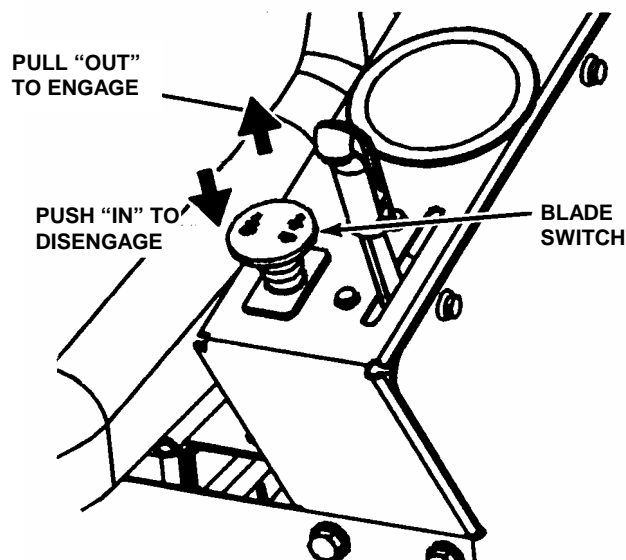

FIGURE 2.2
**2.1.4.** Check Blade switch to insure it works freely. Switch is pulled "OUT" into the "ON" position for blade engagement or pushed back "IN" into the "OFF" position for blade disengagement. See Figure 2.2. **IMPORTANT:** Blade rotation must stop in 5 seconds or less after moving blade switch to "OFF". Refer to Section "Blade Brake Adjustment".